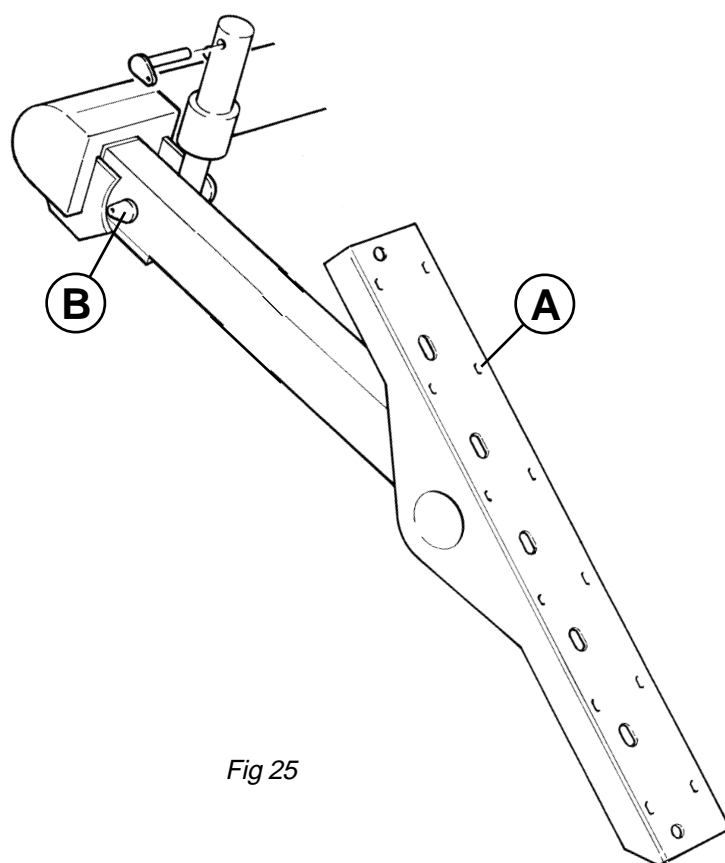

Fig 25
- Remove 12 bolts on each side to free frame mounts from underside of modular chassis, Fig 25.A.
- Remove lower ram pins as shown, Fig 25.B.